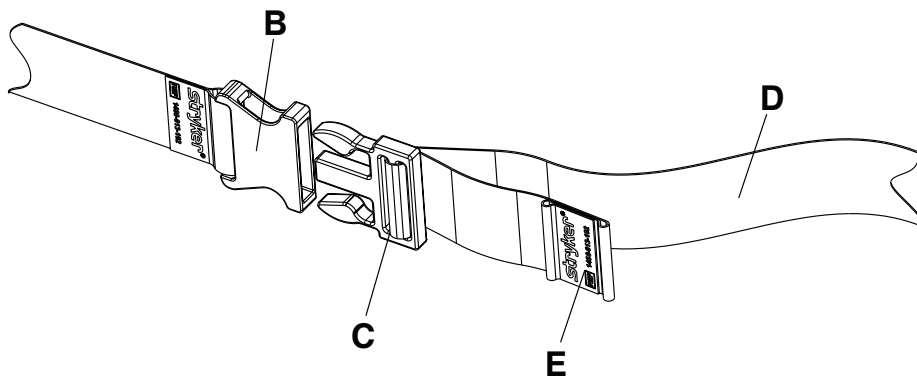

Figure 15 – Close the lap belt
2. To close the lap belt (Figure 15), push the buckle latch (C) into the buckle receiver (B) until you hear a click.